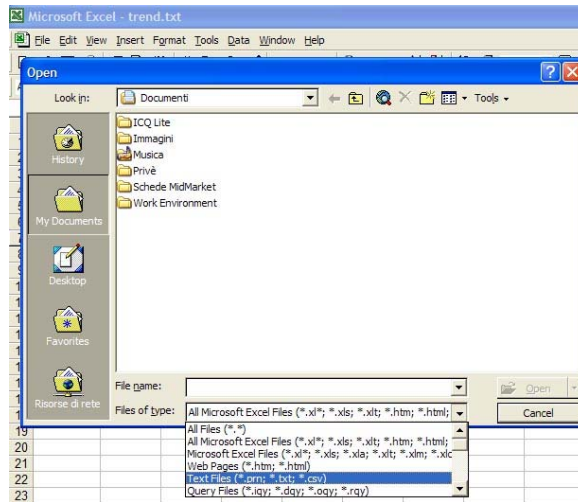

Figure 201: Importing .txt to Excel
4. Open the file in Microsoft Excel (Figure 201).